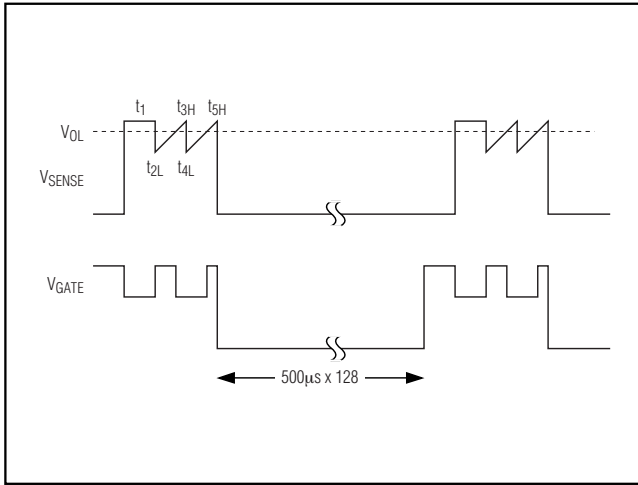

Figure 14. MAX5921A Overcurrent Fault Example
The MAX5921/MAX5939 feature an overcurrent fault integrator. When an overcurrent condition is detected, an internal digital counter is incremented. The clock period for the digital counter is 32 μ s for the 500 μ s maximum current-limit duration version and 128 μ s for 2ms maximum current-limit duration devices. An overcurrent of less than 32 μ s is interpreted as an overcurrent of 32 μ s. When the counter reaches 500 μ s (the maximum current-limit duration) for the MAX5921/MAX5939A, an overcurrent fault is generated. If the overcurrent fault does not last 500 μ s, then the counter begins decrementing at a rate 128 (maximum current-limit duty cycle) times slower than the counter was incrementing. Repeated overcurrent conditions generate a fault if the duty cycle of the overcurrent condition duty ratio is greater than the maximum current-limit duty cycle (see Figure 14).
- If an optocoupler is utilized as in Figure 14, determine the LED series resistor: